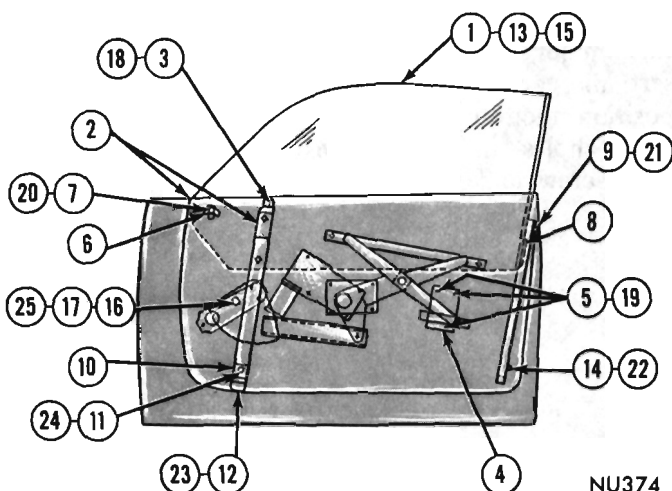

Fig. 2 - Ventless Glass Adjustments
- (1) Raise glass completely (Fig. 2).
- (2) Move glass fore or aft to set glass to belt line weatherstrip.
- (3) Tighten glass track upper bracket at belt line.